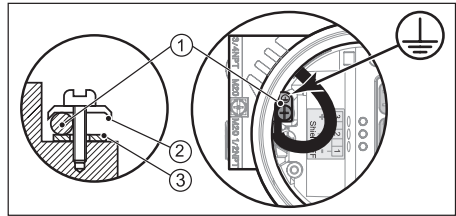

Fig. 4.1 Earth wire connections
\* If required, mount earth wire (1) between top (2) and bottom (3) ring of earth wire connection (see figure 4.1).